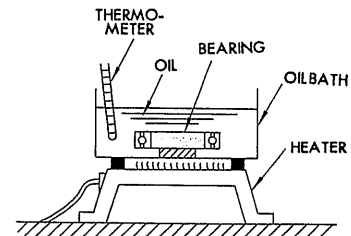

Fig. 13 Heating of Regreasable Bearings
1. Heat the bearing to 90 - 110°C in an oil bath, Fig. 13.